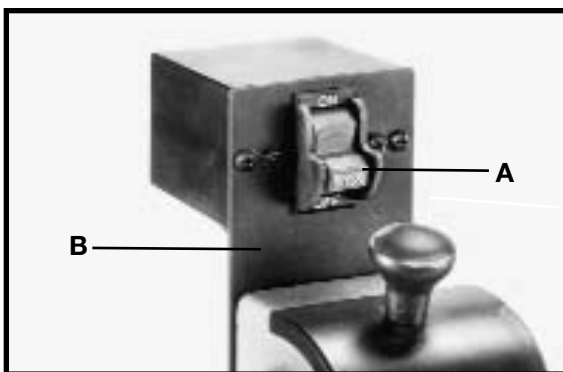

Fig. 17
The toggle on/off switch (A) Fig. 17 is located on the bracket (B) attached earlier to the rear of the headstock. To turn the switch “ON”, move the toggle switch (A) upward. To turn the switch “OFF”, move the toggle switch (A) downward.